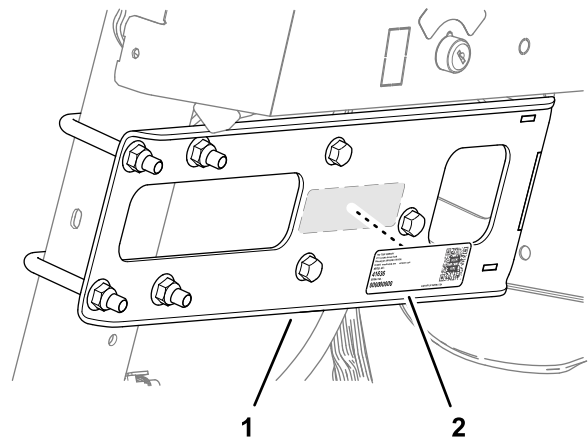

Figure 31
2. Affix the decal to the manifold mount as shown in Figure 31.